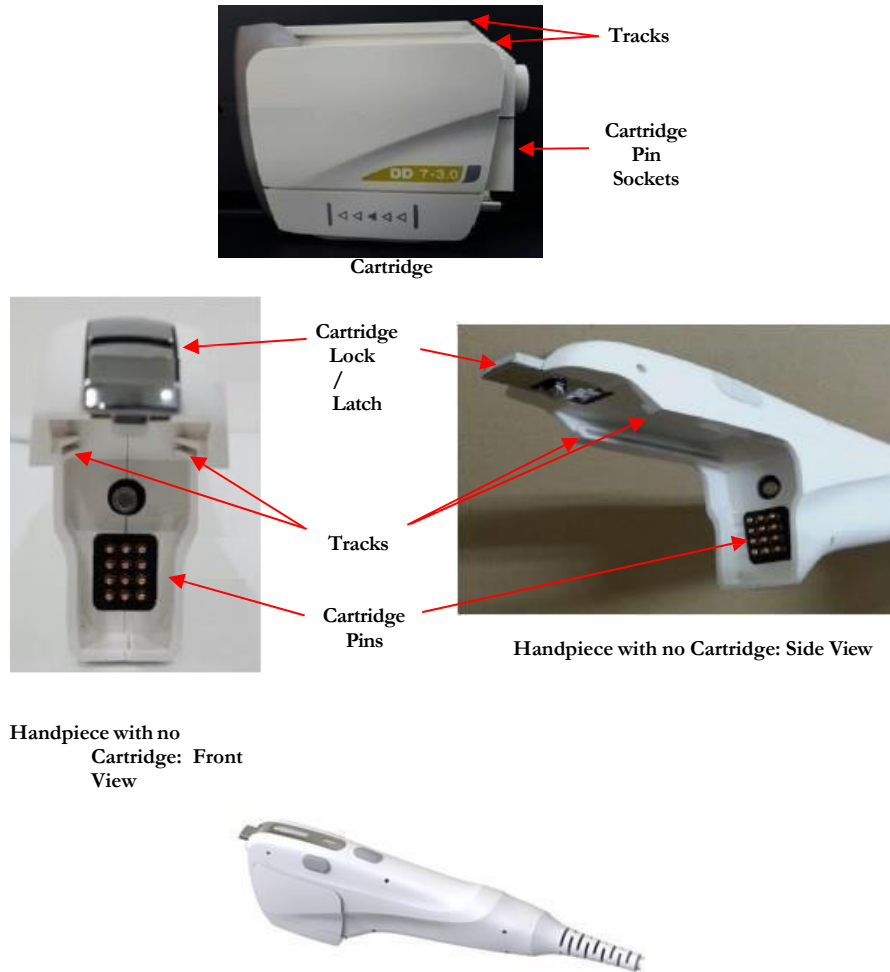

Figure 3.0-6: Connecting the HIFU cartridge to the handpiece.
1. Align the cartridge tracks into the handpiece tracks and gently slide the cartridge into the handpiece until the cartridge pin sockets connect with the handpiece cartridge pins (Figure 3.0-6).
3. To disconnect the cartridge, gently lift the Cartridge lock / latch on the HIFU handpiece (Figure 3.0-6) and slide the cartridge straight out of the handpiece. A beep will sound when the cartridge is disconnected.